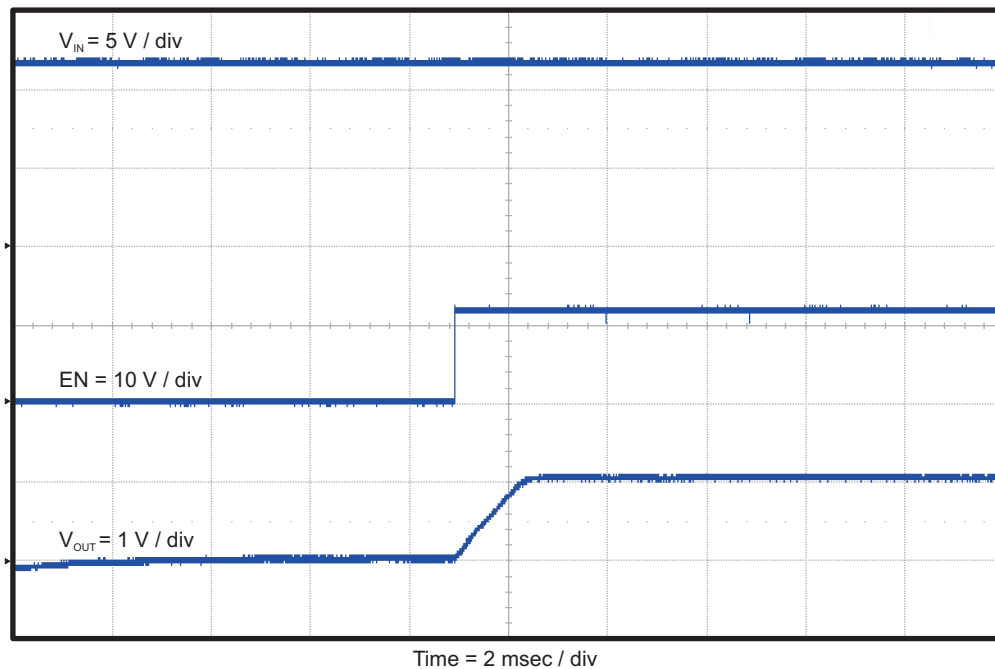

Figure 9. TPS54429EVM-608 Start-Up Relative to EN
The TPS54429EVM-608 start-up waveform relative to enable (EN) is shown in Figure 9.